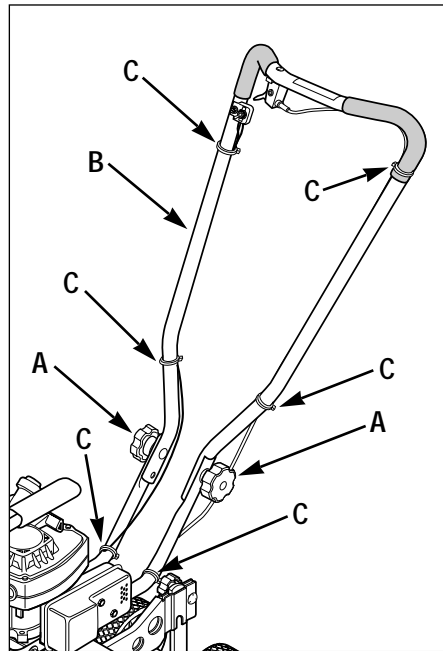

Figure 1: Loosen handlebar knobs and unfold handlebars. Slide plastic ties to the locations shown.
1. Loosen the two handlebar knobs (A, Figure 1) and unfold the handlebars into the operating position. Do not use force — if there is binding, continue to loosen the knobs.
3. Check the locations of the six plastic ties (C, Figure 1). The ties must be positioned as shown.